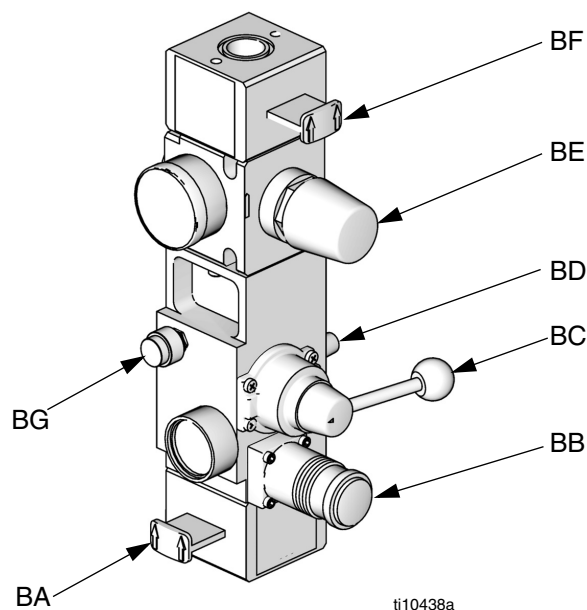
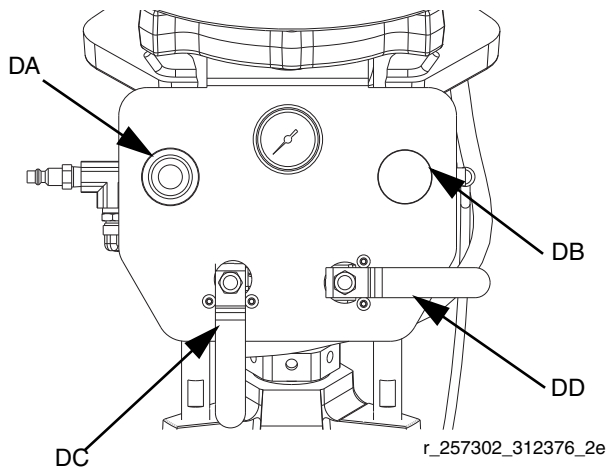

FIG. 3. Integrated Air Control Module
FIG. 7: Elevator Air Controls
| G Integrated Air Controls (see FIG. 3) | U Air Line Drain Valve (not supplied) |
- G Integrated Air Controls (see FIG. 3)
2. **For D200s, D200, S20, and D60 Air Controls:** See FIG. 3, page 12.
- a. Close the air motor slider valve (BF) and the main air slider valve (BA).
- c. Jog the director valve (BC) up and down to bleed air from ram cylinders.
3. **For L20c Air Controls:** See FIG. 7, page 14.
- a. Close the air motor valve (DC) and the elevator director valve (DD). The ram will slowly drop.
7. Open the fluid line drain valve and the pump bleeder valve (P). Have a container ready to catch the drainage.
8. Leave the pump bleeder valve (P) open until ready to spray again.